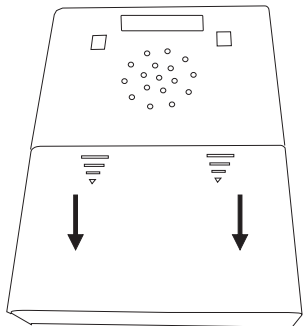

Figure 5: Battery compartment of the »signalux« receiver
- a) At the rear side there is a battery compartment the cover of which can carefully be pushed downwards so that the compartment opens ( fig. 5).